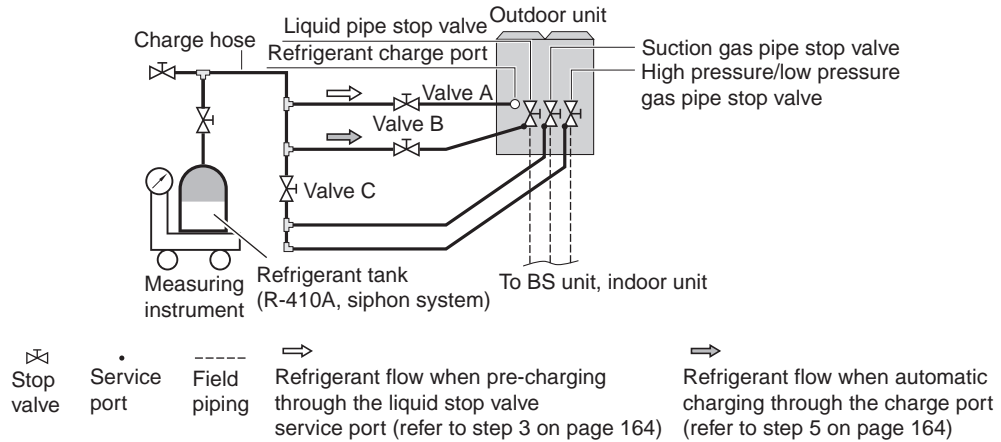

figure 23
3. Open valve B (the valves A and C, the liquid pipe, the suction gas pipe and the high pressure/low pressure gas pipe stop valves must be left closed) and charge the refrigerant in liquid form via the liquid pipe stop valve service port. (See figure 23)
5. After pre-charging, perform the refrigerant charge operation as shown below and charge the remaining refrigerant of the additional charging amount through valve A. (See figure 23)